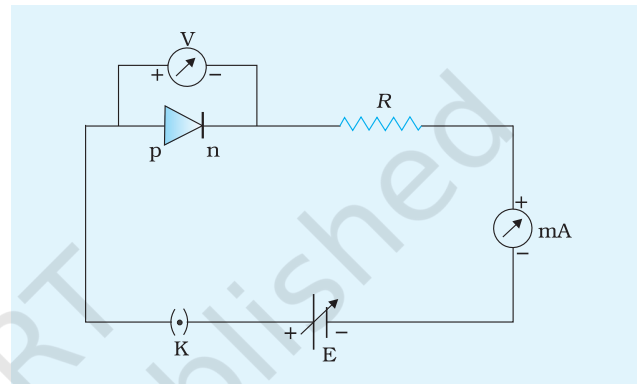

Fig. A 9.2 A semiconductor junction diode in the forward bias
A semiconductor junction diode, when connected (or biased) in the forward direction, offers a low resistance. However, when it is biased in the reverse direction, it offers a very high resistance. Therefore, the working of a junction diode can be examined by measuring its resistance in the forward and reverse bias conditions. The functioning of junction diode can also be examined by checking the unidirectional flow of current in a circuit as shown in Fig. A 9.2. For a diode in proper working order, a substantial current (of the order of few mA) will flow in the forward bias condition. If the polarity of the bias is reversed (i.e., diode in reverse bias condition), negligible current (of the order of few μA) will flow.
5. Connect the diode with the cell and resistance box in a series circuit (without key ON) as shown in Fig. A 9.2. Set the multimeter in current measuring mode at a suitable range (mA, start from high current range).